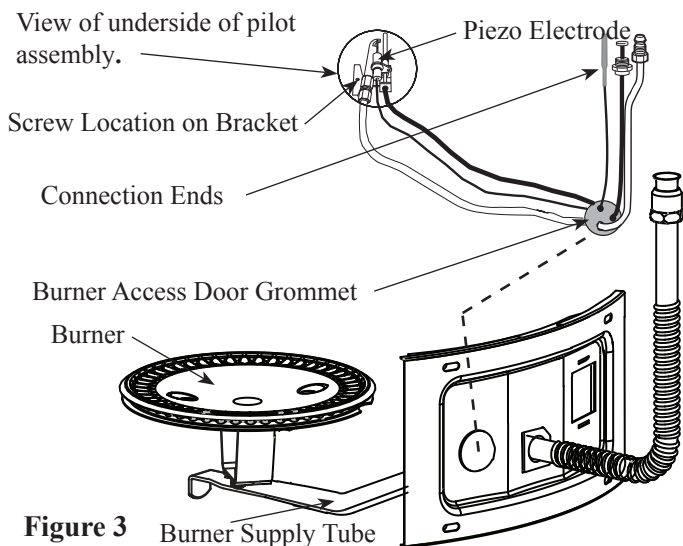

Figure 3
6. **NEW PILOT ASSEMBLY INSTALLATION:** Insert the new pilot assembly by placing the connection ends through the hole (combustion chamber side) on the burner access door. See Figure 3.
Push the orange grommet into the hole of the door until it is properly seated. See Figure 3 & 4. **IMPORTANT:** Take care not to damage the orange grommet when you install it.